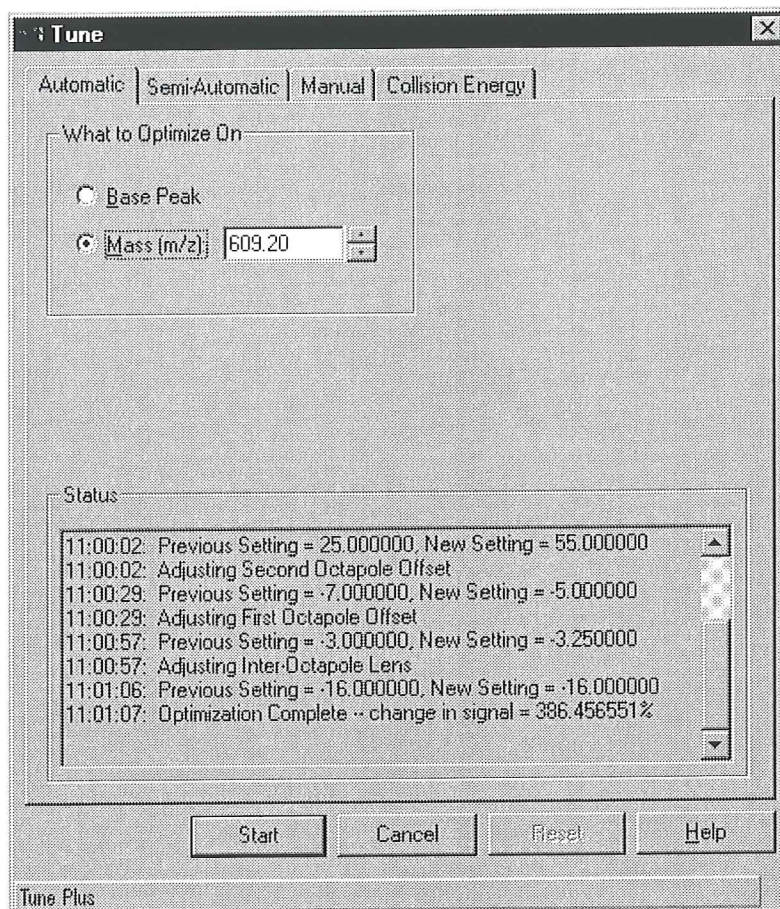

Figure 3-10. Tune dialog box, showing Optimization Complete for automatic tuning of the MS detector
6. Automatic tuning is complete when the Tune dialog box resembles Figure 3-10. The following message is displayed at the end of the procedure:
Save the tune parameters in a Tune Method file with extension *.tun* when automatic tuning is complete. (See Figure 3-10.)